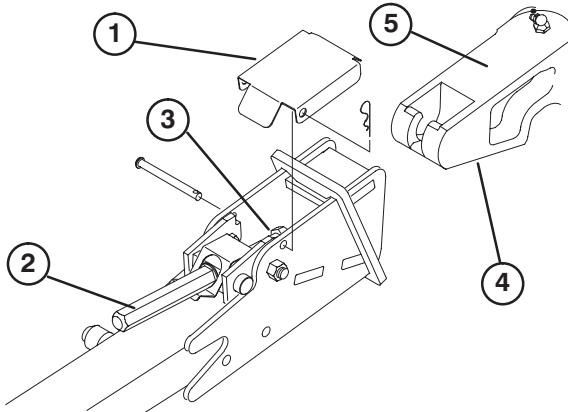

Figure 24
5. Remove hairpin cotter and clevis pin securing latch cover to lift arm (Fig. 24).
3. Adjust lift arms heights making sure that the machined surface on top of each traction unit lift arm is parallel to ground (Fig. 24). (Raise or lower lift arm casting by pushing up or down from behind the front tires or using wrench in front of tractor)
- A. Remove hairpin cotter and clevis pin securing latch cover to lift arm (Fig. 24).
- B. Pivot release lever upward (Fig. 24).
- C. Slide cutting unit lift arm onto traction unit lift arm, inserting shaft latch into slot in traction unit lift arm (Fig. 24).
- D. Pivot release lever downward and tighten securely by rotating clockwise (Fig. 24).
9. Install latch covers to lift arms and secure with clevis pins and hairpin cotters (Fig. 24).